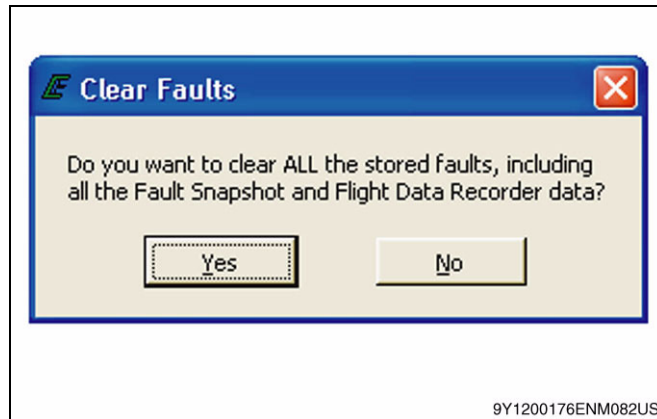

Figure 7: Clear Faults Prompt
* Snapshot and flight data recorder data for historic faults is erased after the prompt shown in Figure 7 is satisfied.
Fault information may be manually erased using the "Clear" button functions. Once a "Clear" function has been selected, the dialog prompt shown in Figure 7 will be displayed. Choosing YES deletes all fault information from the ECM.